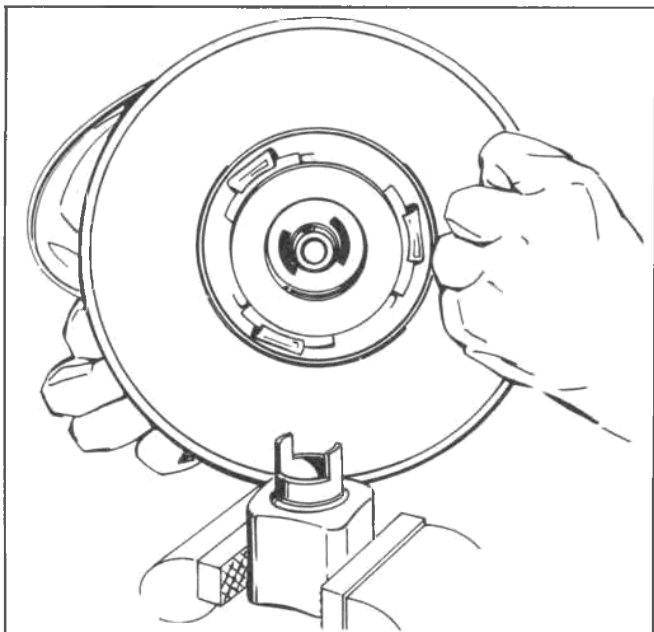

Fig. 5-8A--Positioning Primary Power Piston in Tool J-23101 (Small Dia. End Up)
9. Mount Tool J-23101 in a vise (with small diameter end up). Position the primary power piston so that the two radial slots in the piston fit over the ears (tang) of the tool (fig. 5-8A).
wise. Position the primary power piston so that the two radial slots in the piston fit over the ears (tang) of the tool (fig. 5-8A).